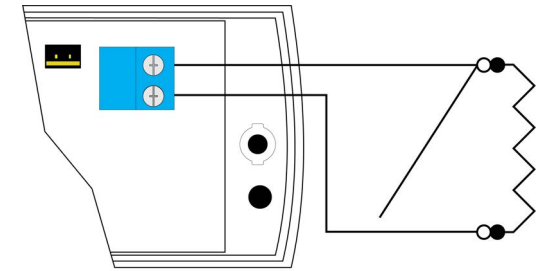

Figure 2 Wired for N/O operation
2. Use 22 AWG wire to wire the 2.2K ohm resistor in parallel with the N/O contact per Figure 2. The distance from the external contact to the EN1215EOL must not exceed 10 feet (3 meters).